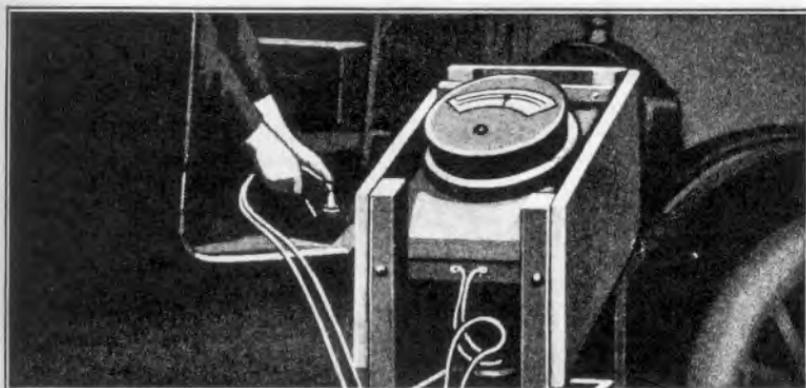

Fig. 499
- 994 If the engine starts, the magneto is either weak or dead. With the engine running take a volt meter reading (See Fig. 499). This can be done by disconnecting magneto terminal wire at magneto contact assembly. One wire on the volt meter is then connected to magneto contact, while the other wire on volt meter is pressed against a clean part of the cylinder or transmission cover. Throttle the engine down